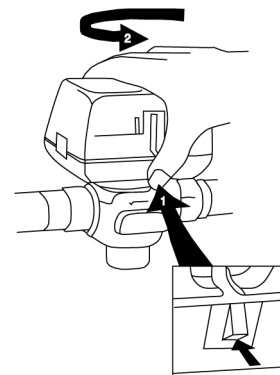

Fig. 2. Latch Mechanism to detach Actuator
1. The actuator head is automatically latched to the valve. Align the coupling hole in the bottom of the actuator with the valve stem. Press the actuator down towards the body with moderate hand force and turn the actuator counter-clockwise by 1/8 turn (45 degrees) to line up the actuator with the piping. The latch will click when engaged. See Figure 2.
4. The actuator head is automatically latched to the valve. To remove, press up on the latch mechanism with your thumb. It is located directly below the white manual open lever (see figure 2). Simultaneously press the actuator down towards the body with moderate hand force and turn the actuator counter-clockwise by 1/8 turn (45 degrees). Lift the actuator off the valve body.
5. Install the new actuator by reversing the process in (4).